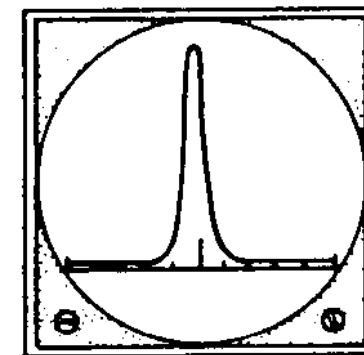

Figure 4
- ( ) Turn the slug of coil L2 clockwise until the IF signal pip is centered on the screen base line. If the top of the pip is off the screen at the top of the CRT, turn the PIP GAIN control counter-clockwise until the complete pip pattern is visible. See Figure 4.